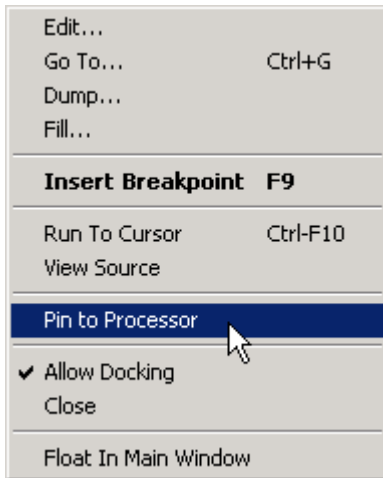

Figure 2-45. Selecting Pin to Processor
- Right-click the mouse in the top **Disassembly** window and choose **Pin to Processor** from the popup menu, shown in Figure 2-45.